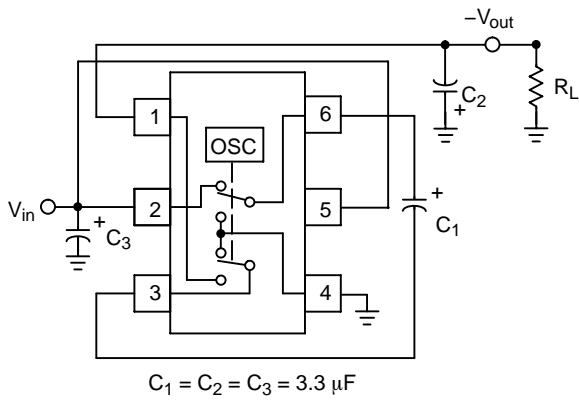

Figure 14. Test Setup/Voltage Inverter
**ELECTRICAL CHARACTERISTICS** ( $V_{in} = 5.0\text{ V}$ ,  $C_1 = 3.3\ \mu\text{F}$ ,  $C_2 = 3.3\ \mu\text{F}$ ,  $T_A = -40^\circ\text{C}$  to  $85^\circ\text{C}$ , typical values shown are for  $T_A = 25^\circ\text{C}$  unless otherwise noted. See Figure 14 for Test Setup.)
The most common application for a charge pump is the voltage inverter (Figure 14). This application uses two or three external capacitors. The  $C_1$  (pump capacitor) and  $C_2$  (output capacitor) are required. The input bypass capacitor  $C_3$ , may be necessary depending on the application. The output is equal to  $-V_{in}$  plus any voltage drops due to loading. Refer to Tables 1 and 2 for capacitor selection. The test setup used for the majority of the characterization is shown in Figure 14.